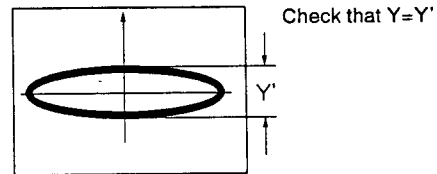

Fig. 2 Lissajous figure of the outer track of the disc (CD)
5. Close the TRKG servo and search for frame #100, then open the TRKG servo again to observe the Lissajous figure. At this time, check that the Y - axis amplitude of the Lissajous figure is the same as that noted in step 4. (Fig. 2)
4. Fine -adjust the grating so that the Y - axis amplitude of the Lissajous figure is minimized. (Fig. 2)
9. Re -open the TRKG servo and observe the Lissajous figure to check that the Y -axis amplitude is minimum. (Fig. 2) If the Y -axis amplitude of the Lissajous figure is larger than specified, repeat the adjustment procedure from steps 5 to 8.
4. Select the oscilloscope's X-input(CH-1) and check that the positive and negative amplitudes of the TRKG error signal are equal. (Fig. 2)
3. Y-axis amplitude of Lissajous figure becomes minimum. Fig. 2 TRKG balance